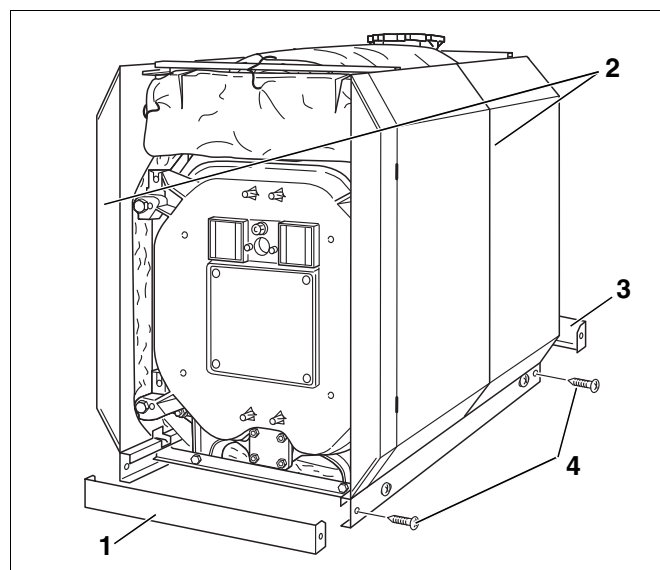

Fig. 51 Mounting the base rails
- ▶ Once the side panels (Fig. 51, [2]) have been vertically aligned, the self-tapping screws in the base rail (Fig. 51, [4]) must be tightened.
- ▶ Push the base rails that run crosswise (Fig. 51, [1] and [3]) into the base rails that run lengthwise from the front and back. The folded edge on the cross plate must be at the bottom in each case, and point towards the boiler (Fig. 51).